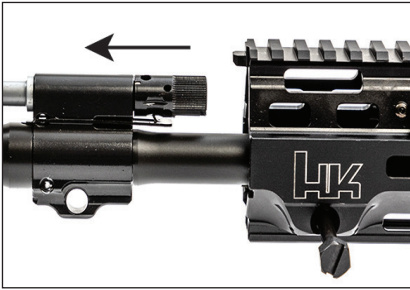

Fig. 49 – Slide the handguard over the barrel to install
1. With the locking screw(s) removed, slide the handguard over the barrel until it engages the barrel nut. (Fig. 49, 50).